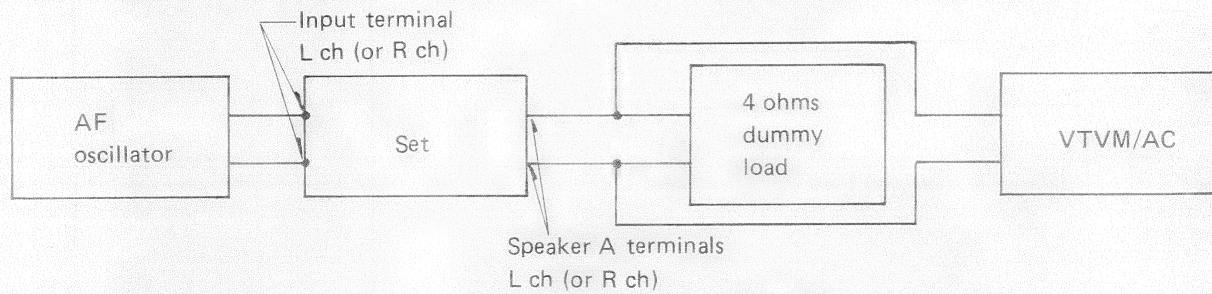

Figure 15
- (1) Set the meter range selector of peak-power-meter to xl (■) position.
- (2) Set the speaker selector knob to SPEAKER A position.
- (3) Connect test equipment as shown in Figure 15.
- (4) Control the output of AF oscillator as the VTVM indicates 2V AC.
- (5) Adjust the indication of peak-power-meter to be 1W with SVR601 (L ch) and SVR602 (R ch).